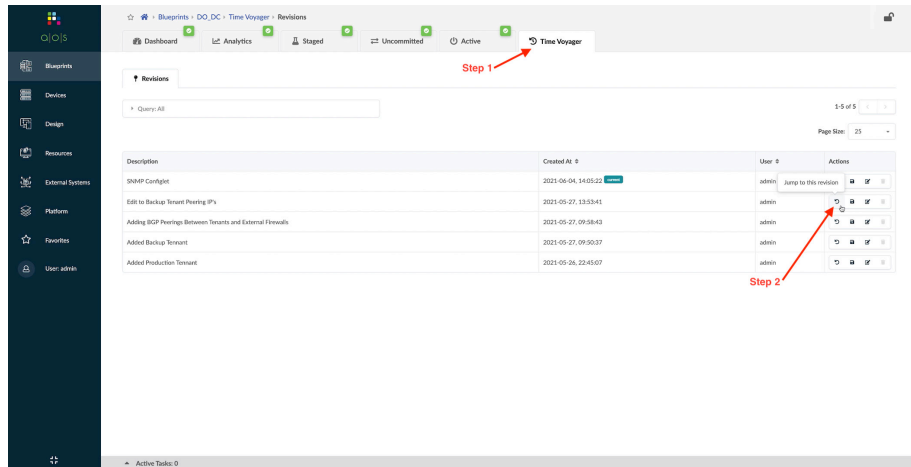

Figure 7.37 Selecting the Target Rollback Version
Step 1: While in the Blueprint go to Time Voyager. See Figure 7.37.